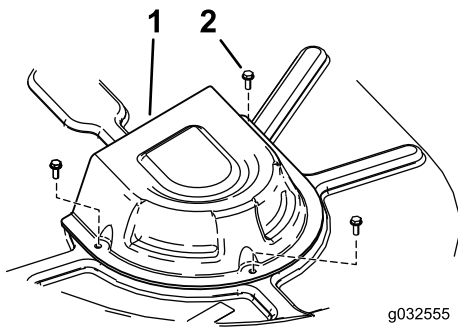

Figure 53
4. For machines with a 107 cm (42-inch) deck, remove the pulley covers (Figure 53).